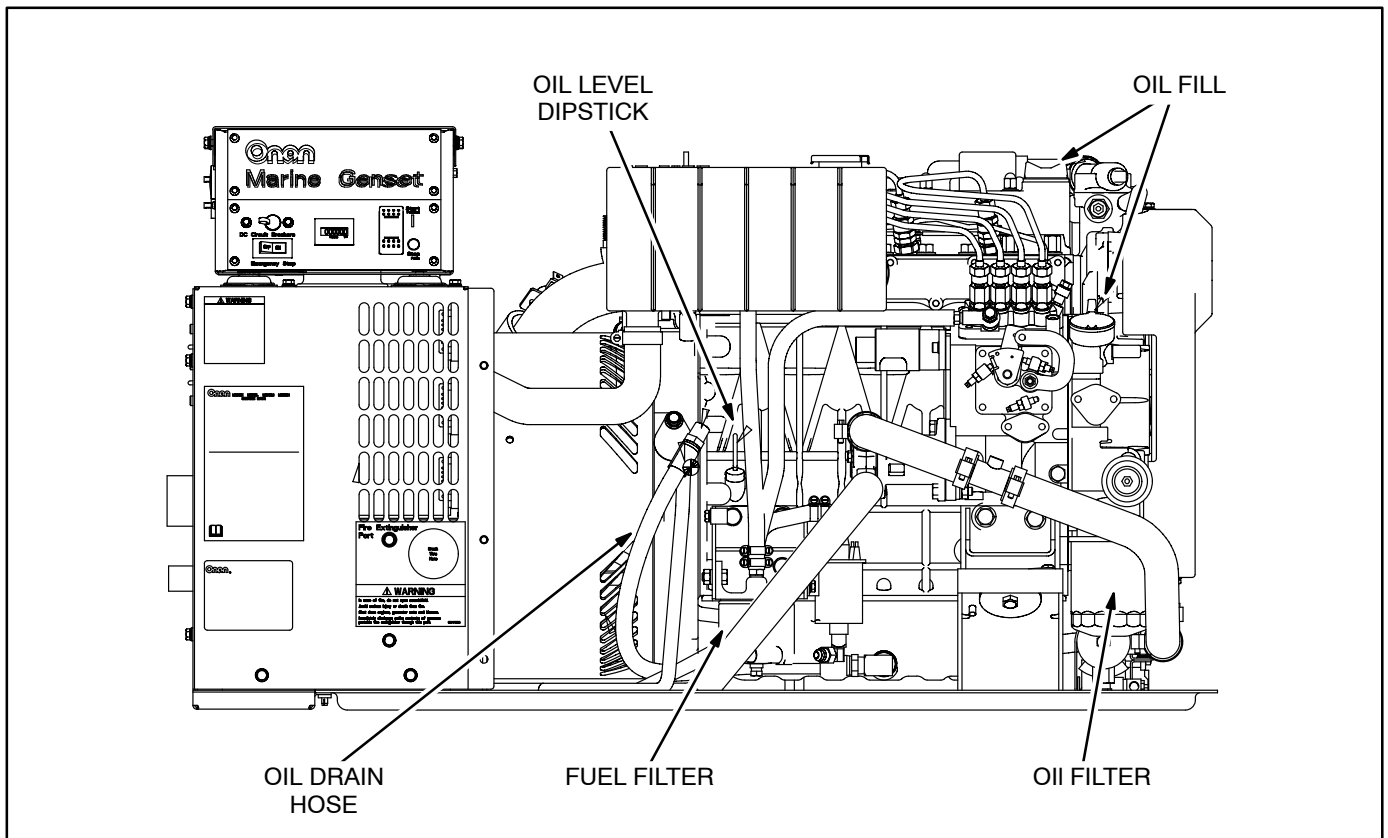

FIGURE 4-1. OIL AND FUEL SERVICE POINTS—MDKKBK, MDKBL, MDKBM, MDKBN
Shut off the genset and check the oil level with the dip stick (Figure 4-1 or 4-2). Add or drain oil as necessary. Add 1 quart (0.9 liters) when the level falls to the ADD mark. Drain oil if the level is above the full mark.
2. Be ready to drain the oil into a suitable container and then open the drain valve or unscrew the plug on the end of the drain hose (Figure 4-1 or 4-2) and drain the oil into a suitable container. (Two wrenches are necessary to keep from twisting the hose when loosening and tightening the plug.) If an oil pump-out system is installed, follow the instructions provided.
The genset has a water-separator fuel filter (Figure 4-1 or 4-2). Check for other up-stream filters which may also need to be drained or replaced.